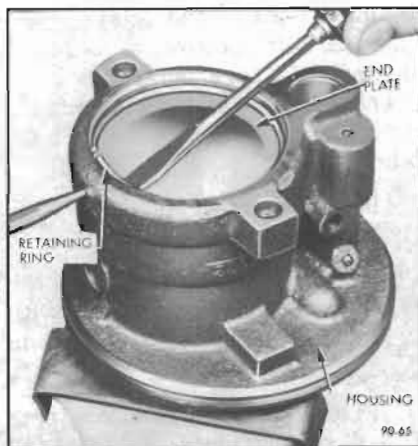

Figure 90-65—Removing End Plate Retaining Ring
8. Rotate end plate retaining ring until one end of ring is over hole in housing. Spring one end of ring with 1/8" punch to allow screwdriver to be inserted and lift ring out. See Figure 90-65.